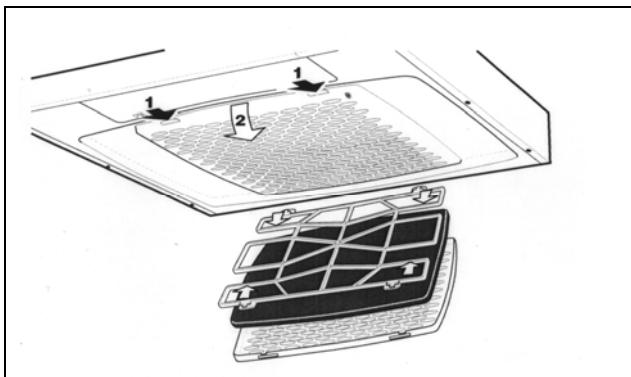

Fig. 11
- The filter cassette is released by pressing the "snap" locks on the front of the hood, (fig. 11). The filter itself is removed by releasing the filter holder as shown. Soak the filter in warm soapy water or in dishwasher.